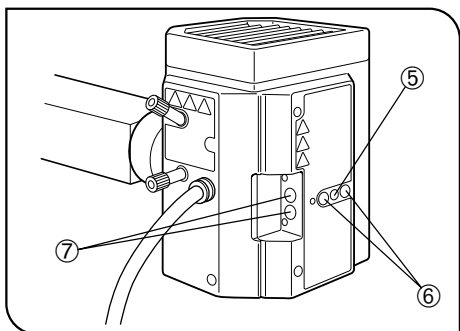

Fig. 4
8. Bring the arc image on the center of the left (or right) half of the field by turning the burner centering knobs ④. (B)
9. Fit the Allen screwdriver in the mirror focusing screw (⑤ in Fig. 4) on the rear of the lamp housing and adjust to bring the mirror arc image in focus. (C)
10. Overlay the arc image with the mirror arc image by turning the burner centering knobs ④. (D)
- Ⓞ During observation, adjust the collector lens focusing knob ③ so that the observed field is uniform.